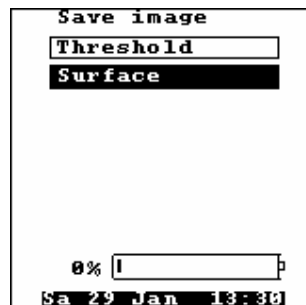

Fig. 43
10. To save the inspection results into Archive turn the DAMI-C HA01 from Surface Check mode to Selection submode and press ENTER key. The Save Image menu appears on the screen (Fig. 43). The flaw image can be saved either as a threshold image or a complete image (a full signal information). Select the necessary menu item using the UP (DOWN) keys and press ENTER key.
12. To escape the Surface Check mode press BREAK key. In case the result was not saved, the request for saving appears on the Display (Fig. 43). Press BREAK key again and DAMI-C HA01 will exit from Surface Check mode without result saving. WORK mode menu appears on the Display.